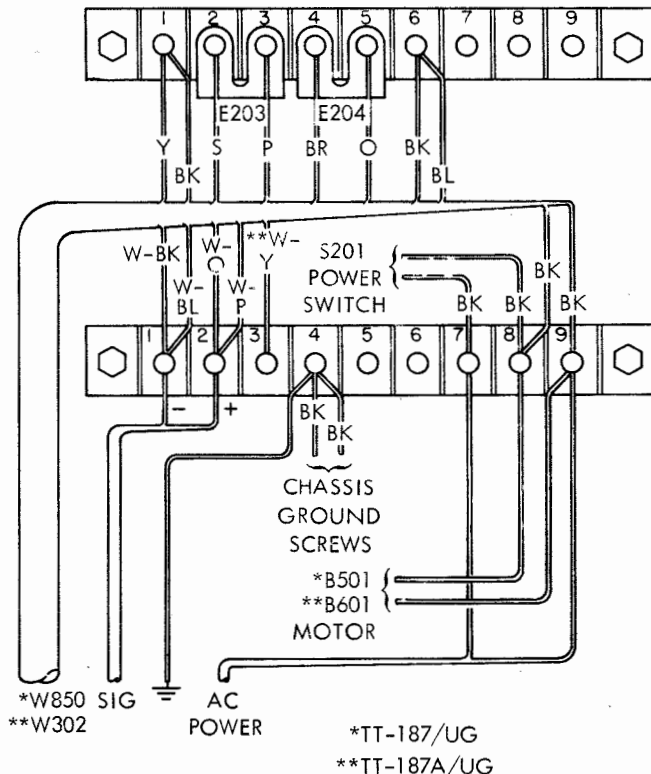

Figure 2-2. Base Wiring
c. When installing Distributor-Transmitter TT-187/UG base, install the distributor-transmitter cable beneath the front and rear plates and fasten with cable clamp, screw, washer and lock washer (H233, H218, H219 and H220, figure 6-2). Refer to figure 2-2 for cable connections on the terminal boards. Refer to figure 6-35 for a diagram of main power distribution.
(See figure 2-2.)
e. Except for slightly different physical location of the upper and lower terminal boards on the base, terminal board wiring for Distributor-Transmitter TT-187/UG or TT-187A/UG is identical. (See figure 2-2.) In wiring TT-187/UG terminal boards, lead the distributor-transmitter cable from the cable clamp around the left terminal board mounting bracket and between the upper and lower terminal boards to the number 1 terminals. In wiring TT-187A/UG terminal boards, lead the base cable in front of the front terminal board mounting bracket to the number 1 terminals.